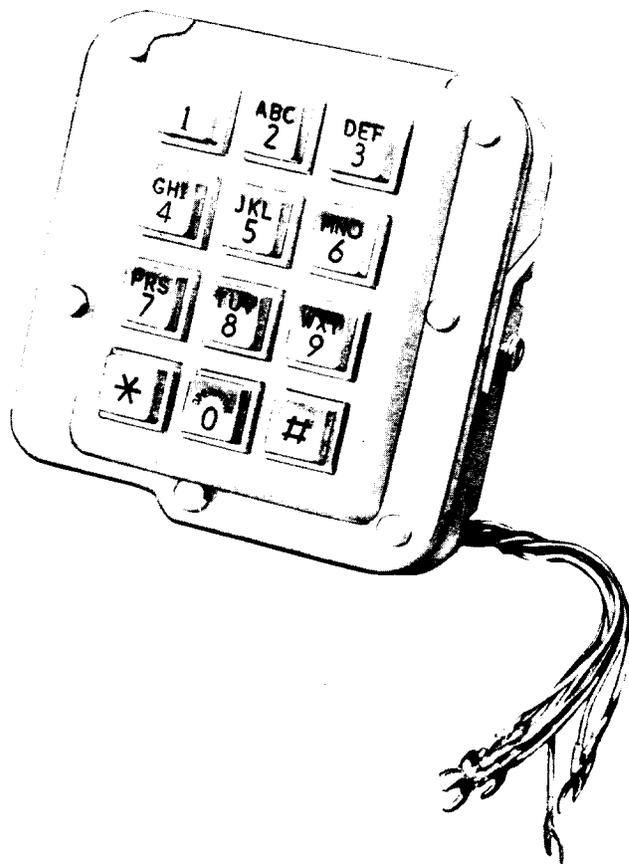

Fig. 1—70-Type Dial
1.01 This section contains information on the 70A (MD) and 70B dial (Fig. 1).